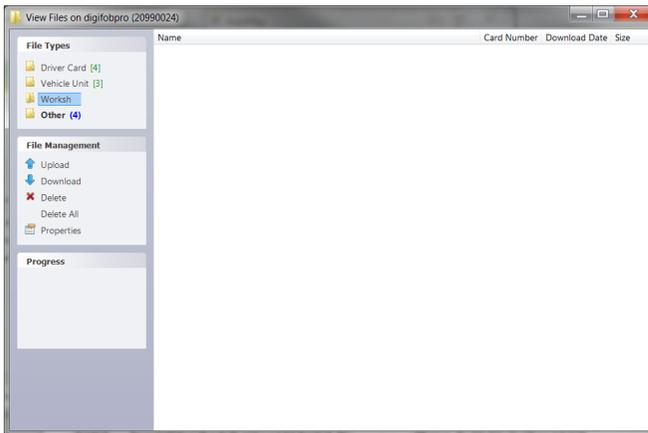

Fig 6.
**View Files on Device:** digifobpro comes with its own file browser software to enable you to manage the files that are held on the digifobpro via your PC. This is particularly useful for where you have opted for Manual Download within the Archive Settings. Select the 'View Files on Device' option and you will be presented with the file browser screen as shown in Fig6.